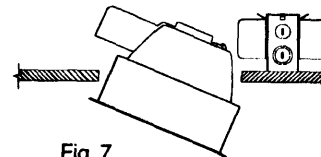

Fig. 7
2. Insert trim assembly into mounting frame by tilting assembly and rocking trim assembly through aperture. Push upward until trim is flush white with ceiling. (See Fig. 7)
3. Insert die-cast socket housing and trim assembly in mounting frame by tilting and rocking assembly through aperture. Then push the trim assembly straight into the mounting frame and align keyhole slots onto screws secured to mounting frame brackets. Tighten mounting screws to secure reflector assembly to mounting frame (See Fig. 7) **NOTE: For best results position die-cast socket housing opposite ballast.**